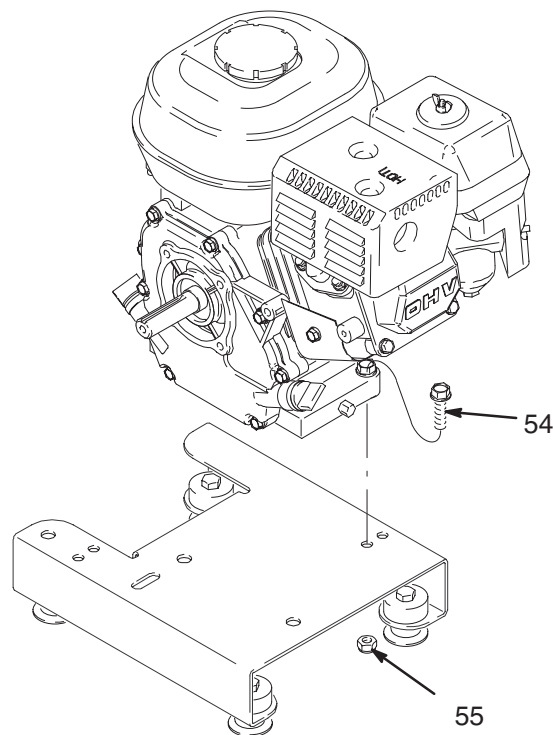

Fig. 14
3. Fig. 14. Remove two locknuts (55) and screws (54) from base of engine.
2. Fig. 14. Install two screws (54) in base of engine and secure with locknuts (55).